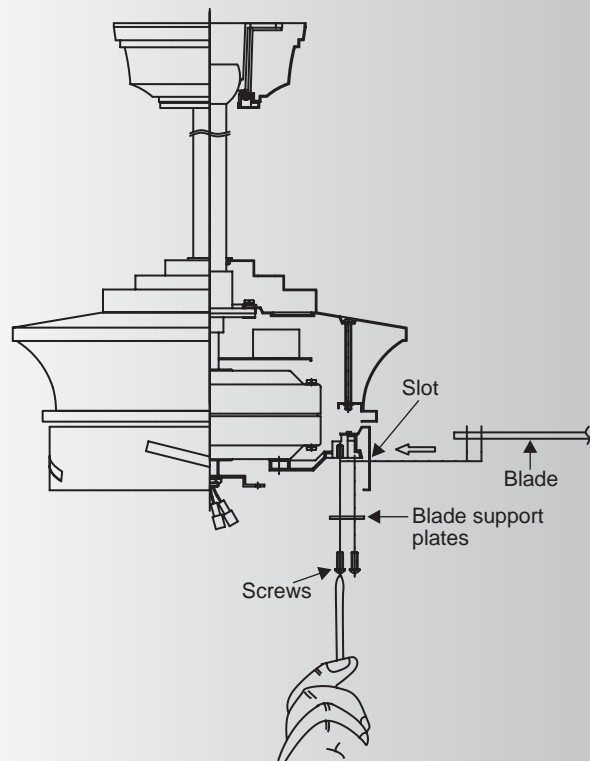

Fig. 16
Step 1. Insert the blade through the blade slot in the decorative housing. Align the holes in blade and blade bracket, place the blade support plate on blade as showing in Figure 16, making sure the holes are also aligned and secure with screws provided.